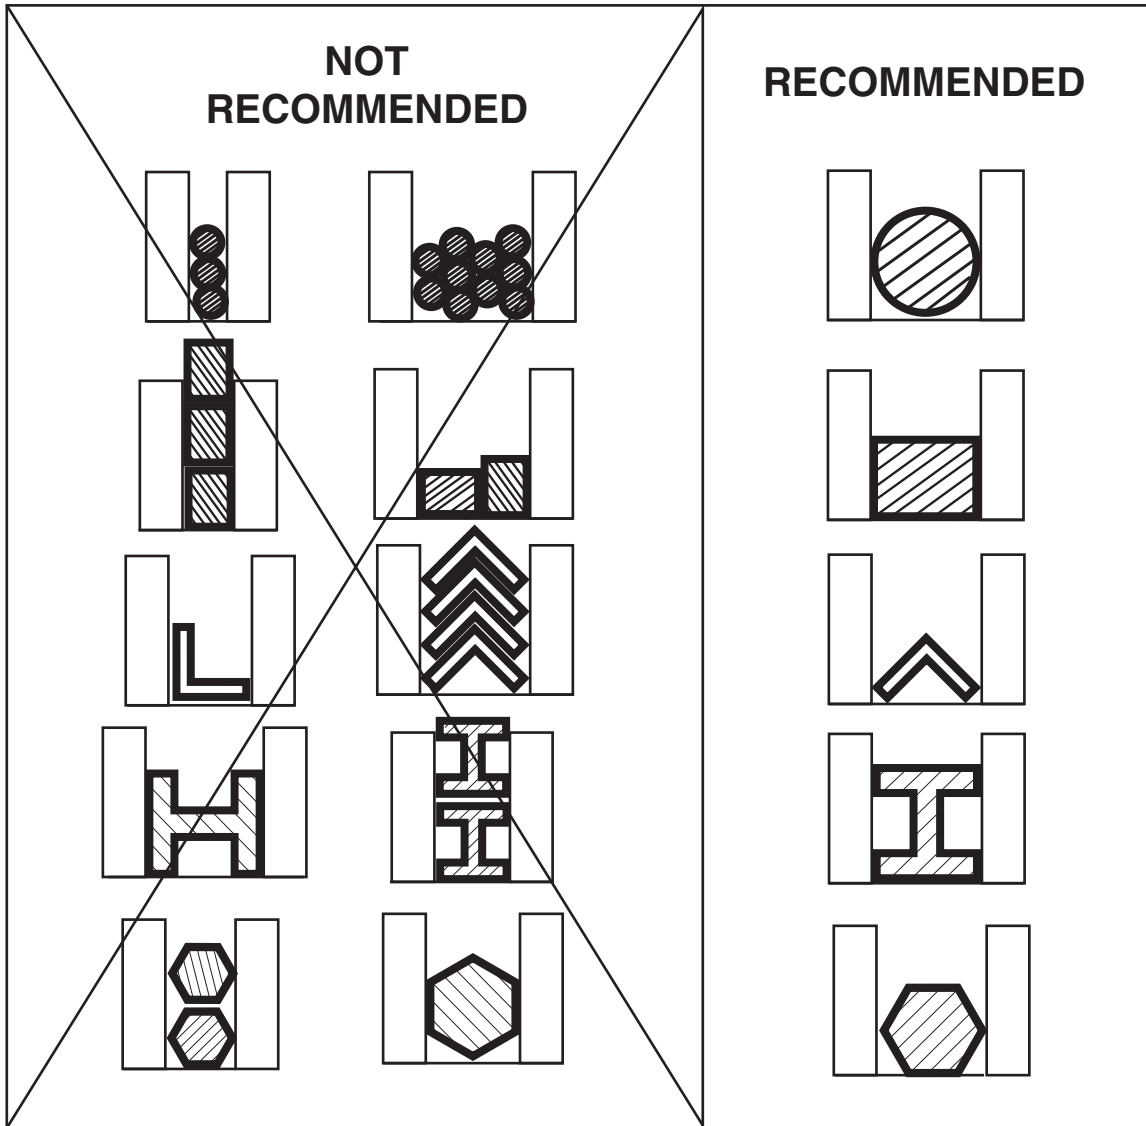

Figure 30. Vise clamping options.
6. Use the chart shown in **Figure 30** as a guide to quickly position the workpiece between the vise jaws correctly and to avoid slipping during a cut. **DO NOT CUT STEEL THAT IS STACKED OR BUNDLED.** One or more workpieces will slip and damage the saw blade.